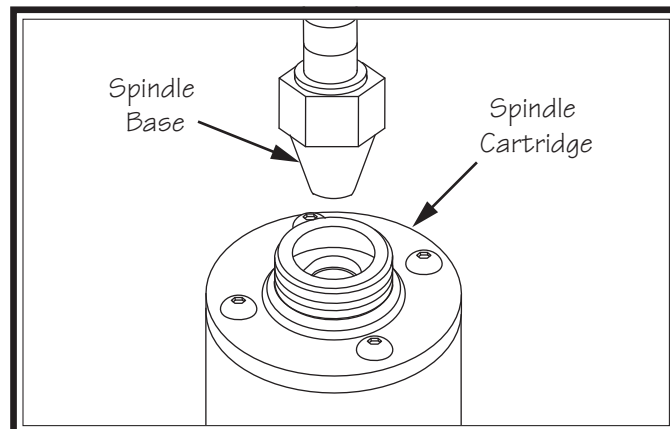

Figure 19. Inserting spindle into place.
6. Insert spindle base into spindle cartridge (see **Figure 19**). Thread spindle nut onto cartridge approximately 1 turn.